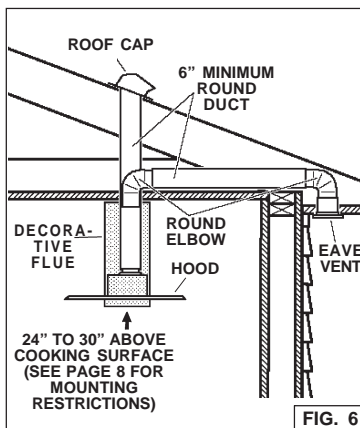

FIG. 6
1. Decide where the ductwork will run between the hood and the outside. Fig. 6.